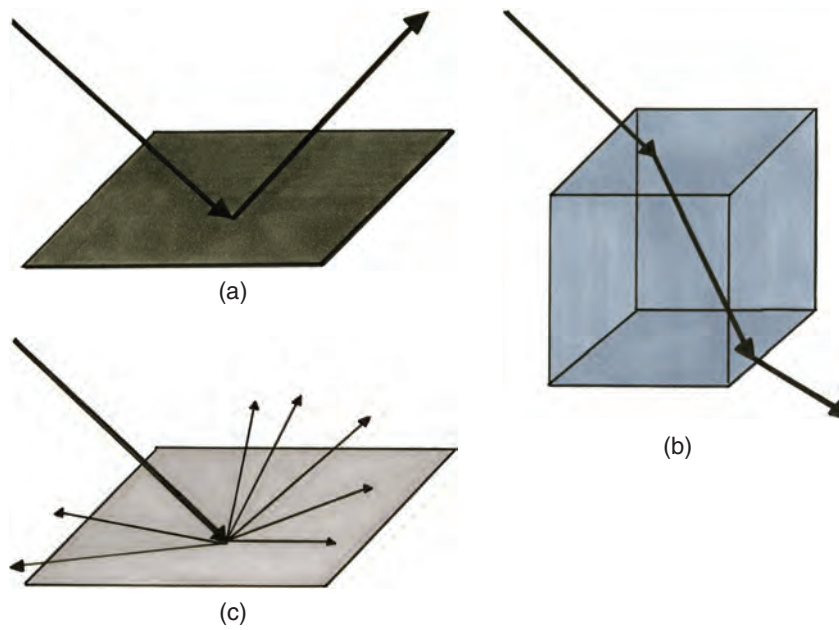

FIGURE 1.3 Reflection, refraction, scattering
- Light changes direction when it reflects off surfaces or when it passes through materials, refracting (bending) or scattering (see Figure 1.3).